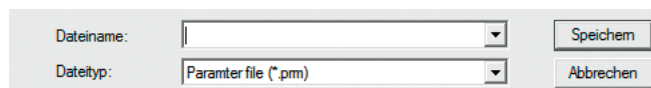

Fig. 6.67 "Upgrade/Downgrade Firmware" – save backup parameters
- ▶ Press **“Yes”** and save file (see Fig. 6.67).